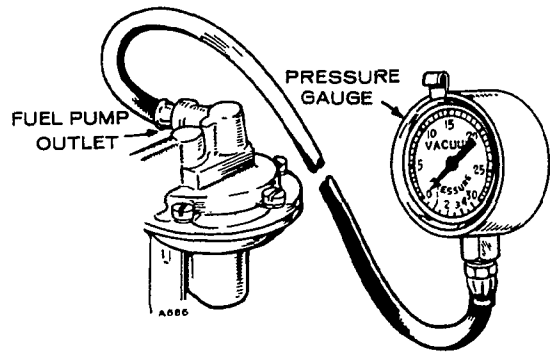

FIGURE 17. TESTING FUEL PUMP PRESSURE
1. Disconnect pump outlet line and install pressure gauge (Figure 17).